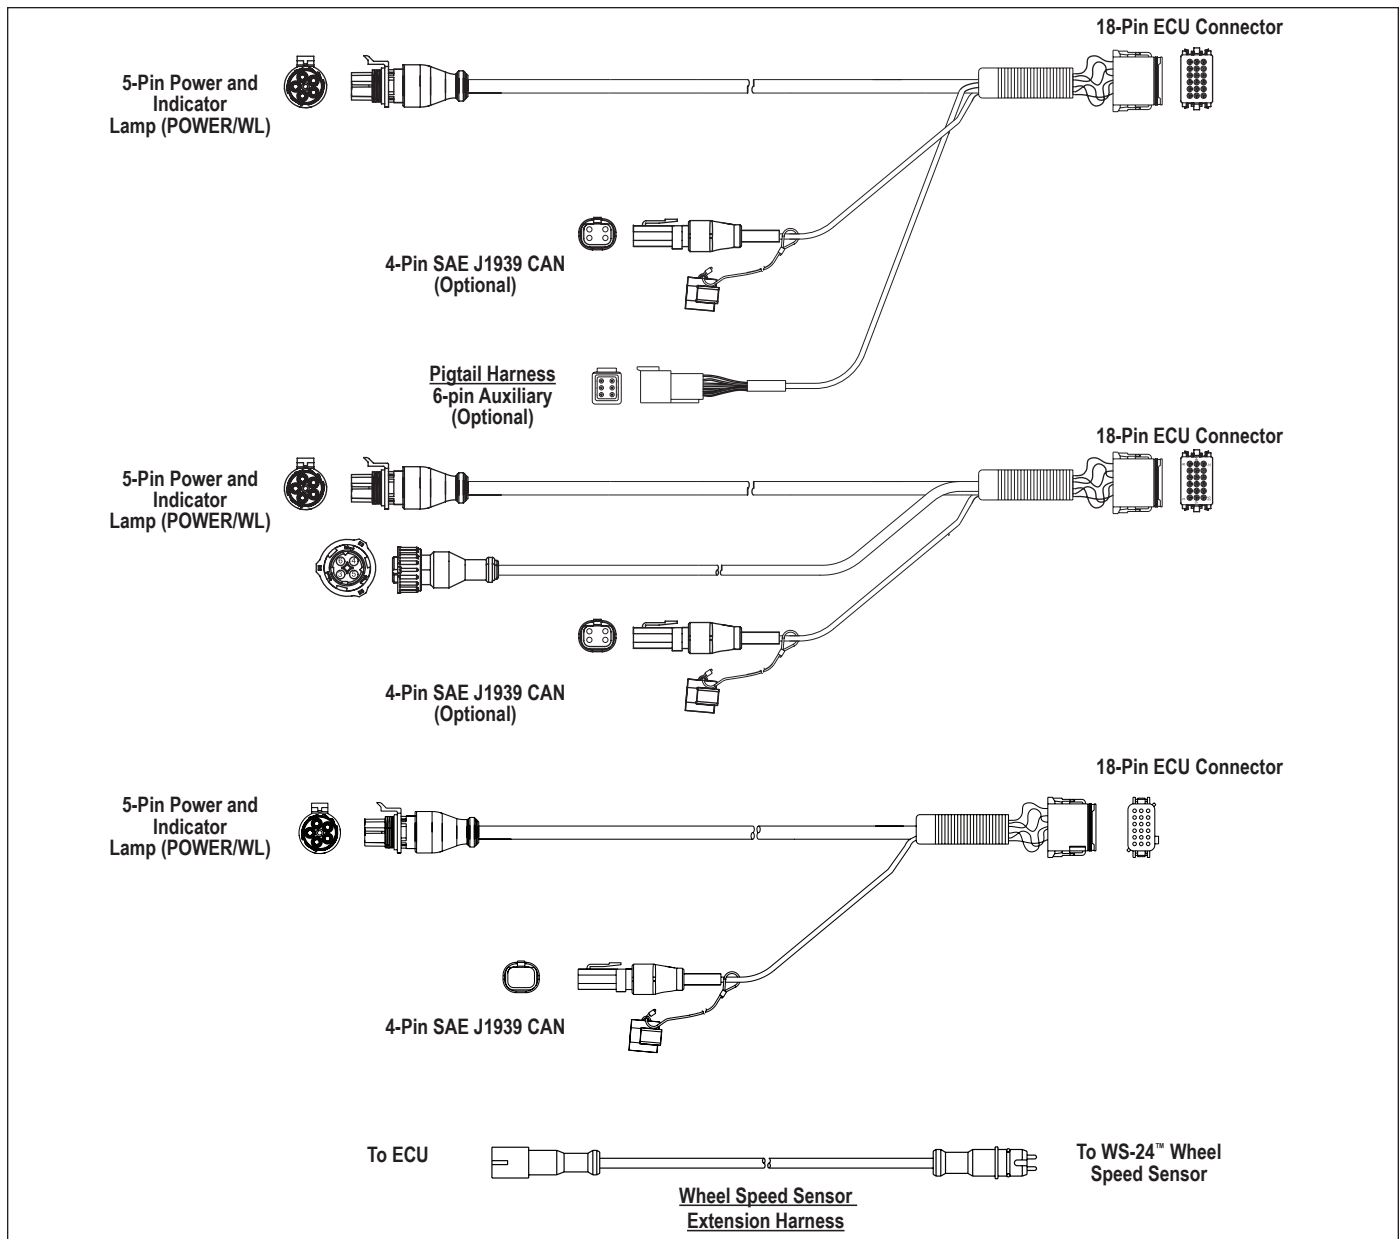

FIGURE 6 - EXAMPLES OF PIGTAIL WIRE HARNESSSES
- **Pigtail Wiring Harness:** A power pigtail harness is required, variations that include auxiliary sub-harnesses are available, as needed. See Figure 6.
- **Load Sensor:** If a trailer is equipped with an external electrical spring deflection sensor, *See Figure 4*, a linkage is attached to an axle (but must not be installed on a lift-axle) – within (five) 5 inches of the center of the axle – connects to a load sensor attached to the chassis of the vehicle. The output from the sensor is an electrical signal that is proportional to the spring deflection. The connection to the Electronic Control Unit (ECU) is via an auxiliary sub-harness (part of the power harness). *See Figure 6*.
*See Figure 6.*